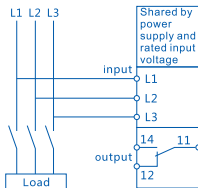
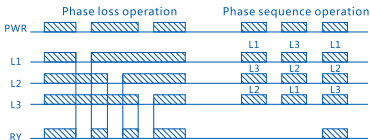
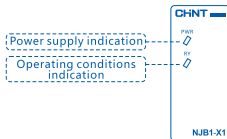

Figure 2 Wiring Diagram
Figure 3 Working Sequence Diagram
Figure 4 Panel Diagram
3.2 Wiring diagram: see Figure 2; **working sequence diagram:** see Figure 3; **panel diagram:** see Figure 4.